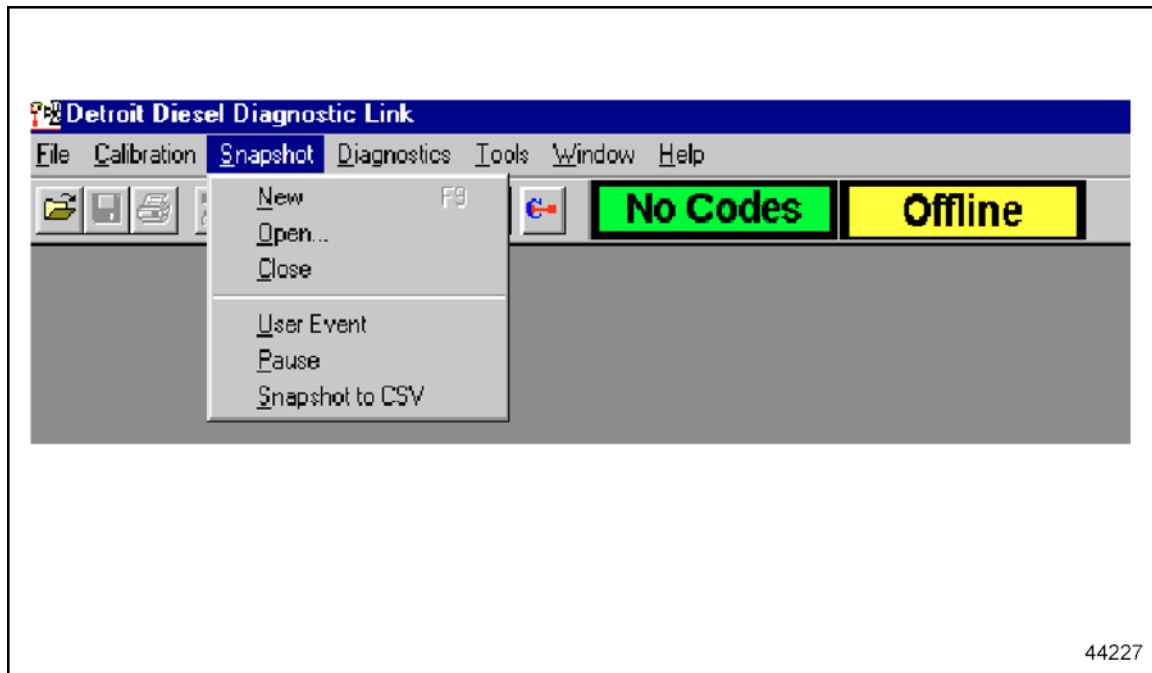

Figure 6-5 **Snapshot Drop-Down Menu**
1. Go to the **Snapshot** drop-down menu and select **Open**. Do not have the computer connected to a vehicle when replaying a snapshot. See Figure 6-5.